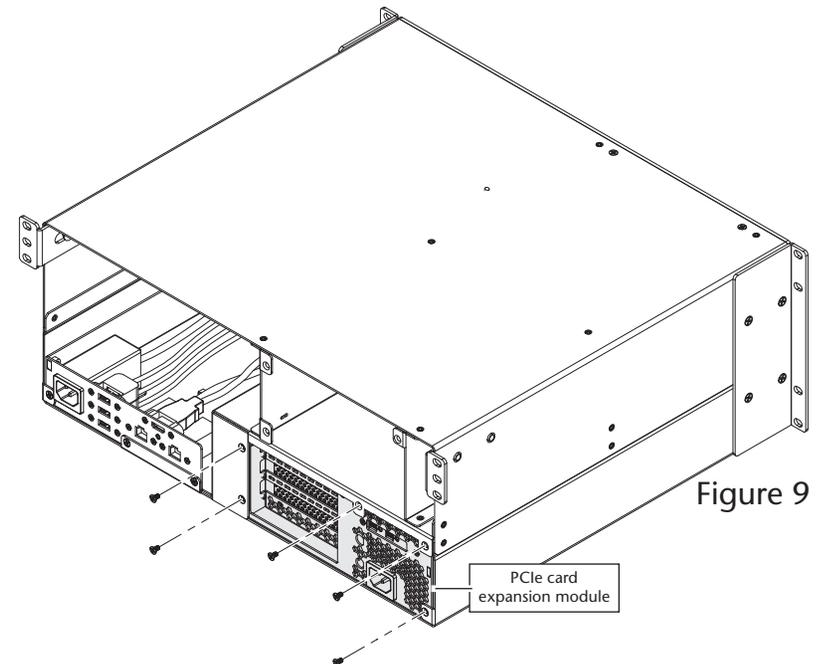

Figure 9
4. Using a Phillips screwdriver, remove and set aside the five screws securing the PCIe card expansion module to the rackmount enclosure (Figure 9).